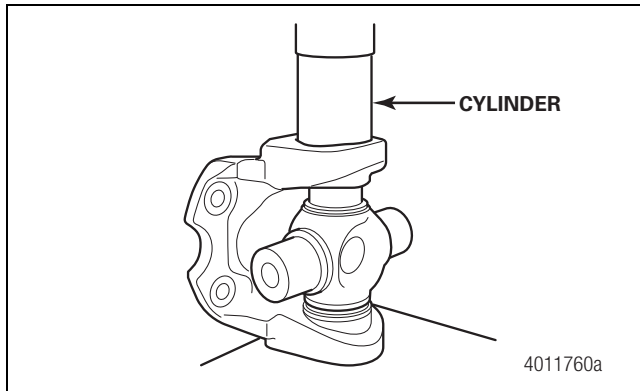

Figure 4.64
6. Install a cylinder and continue pressing down until the bushing is seated low enough to install the snap ring. Figure 4.64.